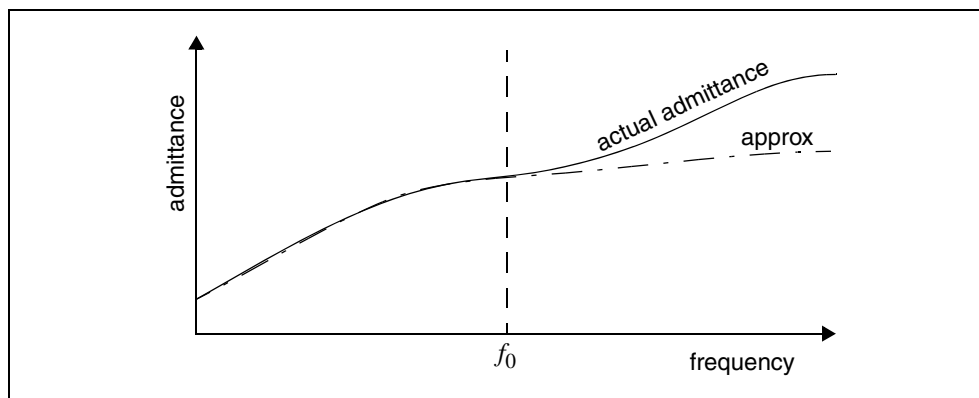

Figure 112 Multiport Admittance vs. Frequency
- The amount of reduction depends on the f_0 upper frequency, the threshold frequency where `SIM_LA` preserves the admittance. This is shown graphically in Figure 112.